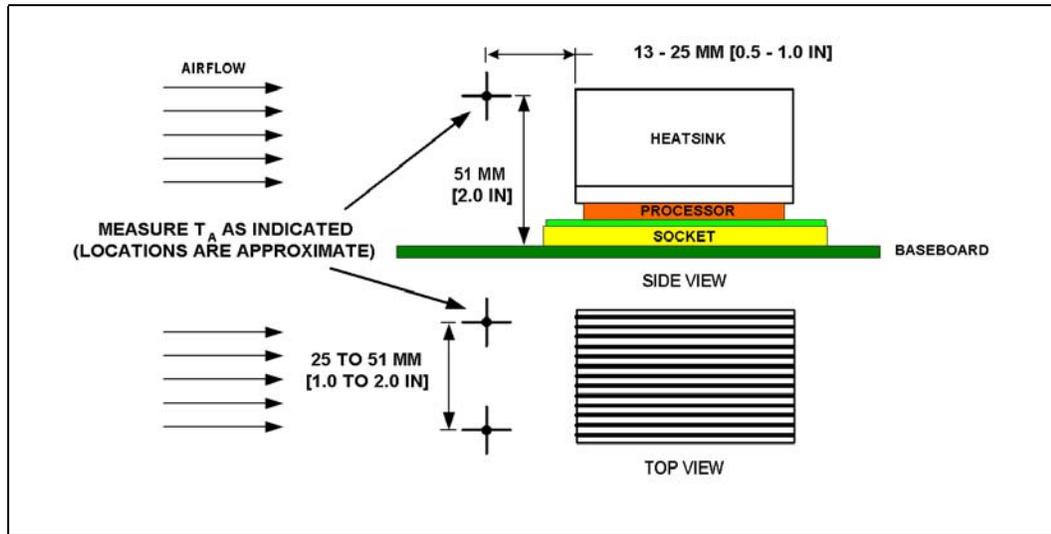

Figure 13. Measuring T_{LA} with an Active Heatsink
- It is important to avoid taking measurements in the dead flow zone that usually develops above the fan hub and hub spokes. Measurements should be taken at four different locations uniformly placed at the center of the annulus formed by the fan hub and the fan housing to evaluate the uniformity of the air temperature at the fan inlet. The thermocouples should be placed approximately 3 mm to 8 mm [0.1 to 0.3 in.] above the fan hub vertically and halfway between the fan hub and the fan housing horizontally as shown in Figure 13 (avoiding the hub spokes).